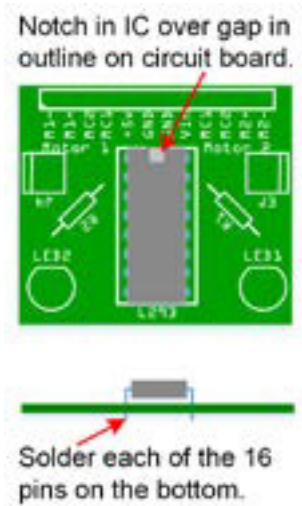

Figure HT7-4. Pin soldered to integrated circuit
2. Begin by placing the integrated circuit on the top of the circuit board, taking care to align the notch on the top of the board to the gap in the white rectangle drawn on the board, as shown in Figure HT7-4.